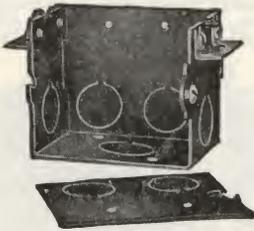

Fig. 8-1. A typical switch box, used to house switches, receptacles, etc. The sides are removable.
**Switch Boxes:** Every switch and receptacle must be housed in a box; the most common is the type shown in Fig. 8-1. Note the small holes used to nail the box to the studding. There are also mounting brackets on each end so that the box can be mounted on wooden or similar supports. There